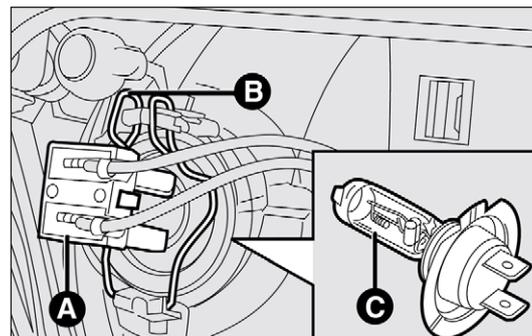

fig. 184
- disconnect the electrical connector A-fig. 184;